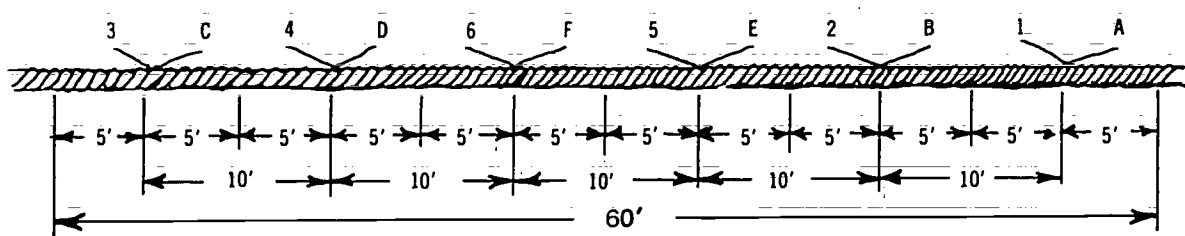

Figure 7-52. Splicing Wire Rope — Step 5
Step 5. Unlay Strand 5 back to the 5' mark and lay Strand E in its place. Then unlay Strand F back to the 5' mark (in the opposite rope) and lay Strand 6 in its place. The splice should now be laid out as in Figure 7-52.